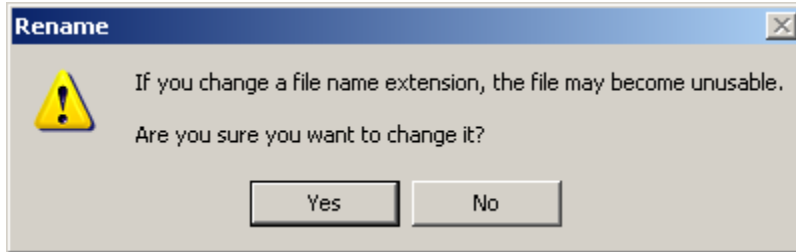

Figure 3-41—File extension rename warning window.
- b) Open the outputs folder in the ArcFuels directory. Find the mtfamily_weather_nws.txt file right-click on the file and select **Rename** from the menu that opens. Change the txt extension to “wtr.” A warning window will open, click **OK** to close the window and change the extension (fig. 3-41).